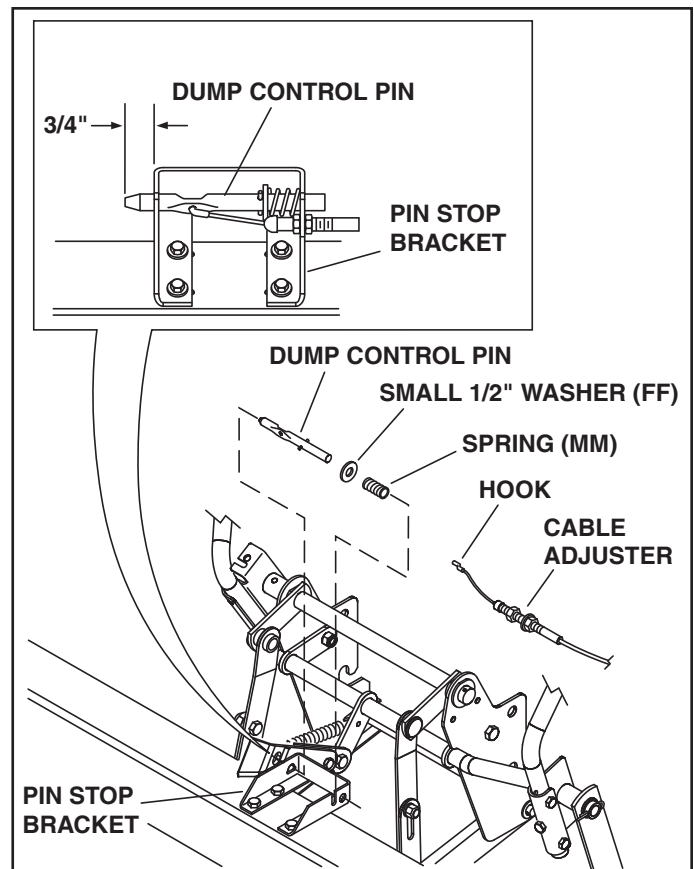

FIGURE 15
STEP 16: INSTALL DUMP CONTROL PIN (SEE FIGURE 15)
- Install a small 1/2" washer (FF) and then the compression spring (MM) onto the dump control pin. Install the dump control pin into the pin stop bracket. Make sure the flat side of the pin faces to the front when finished.